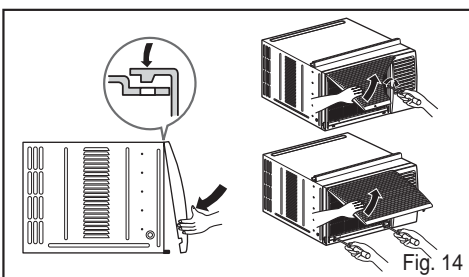

Fig. 14
8. Attach the front grille to the cabinet by inserting the tabs on the grille into the tabs on the front of the cabinet. Push the grille in until it snaps into place.(See Fig.14)
9. Lift the inlet grille and secure it with a screw (Type A) through the front grille.(See Fig. 14)